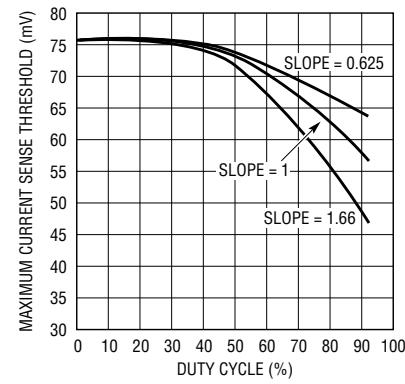

Figure 21. Maximum Sense Voltage Variation with Duty Cycle and Slope Gain
The peak sense voltage threshold for the LTC3862-1 is 75mV at low duty cycle and with a normalized slope gain of 1.00, and is measured from SENSE⁺ to SENSE⁻. Figure 21 illustrates the change in the sense threshold with varying duty cycle and slope gain.
11. The maximum current sense threshold for the LTC3862-1 is 75mV at low duty cycle and a normalized slope gain of 1.0. Using Figure 21, the maximum sense voltage drops to 68mV at a duty cycle of 70% with a normalized slope gain of 1, so the sense resistor is calculated to be: